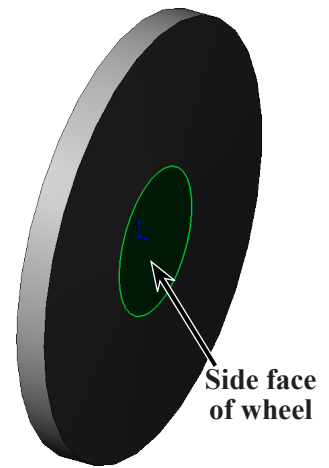

Fig. 10
Step 1. Click the **vertical side face of wheel**, Fig. 10.